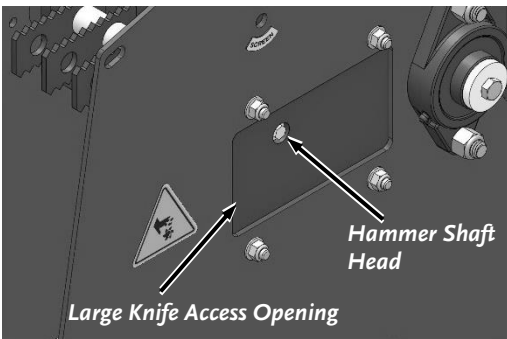

Figure 46
13. Use a 3/8" Socket and Socket Wrench, through the Large Knife Access Opening, to hold the Hammer Shaft Head (**Figure 46**).